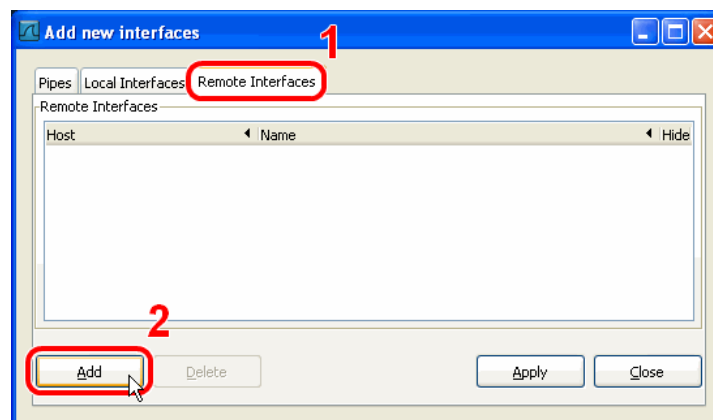

Figure 164: Wireshark Add New Interfaces Dialog.
3. Select the **Remote Interfaces** tab and click **Add** as shown in Figure 164.